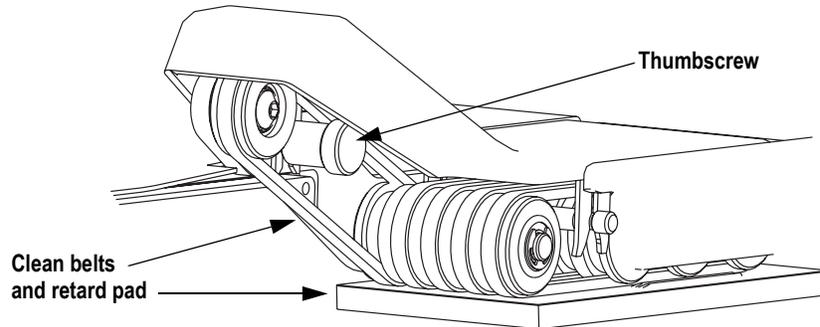

FIGURE 29: Belts and retard pad location
- 2 Lift the feed arm assembly up (hinged on the left side) and loosen the thumb screw on the back side (see Figure 29).